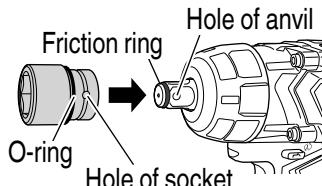

Fig. 9
(1) Slide the O-ring out of the groove, then align the hole of the socket with the hole of the anvil and insert the anvil into the socket. (Fig. 9)